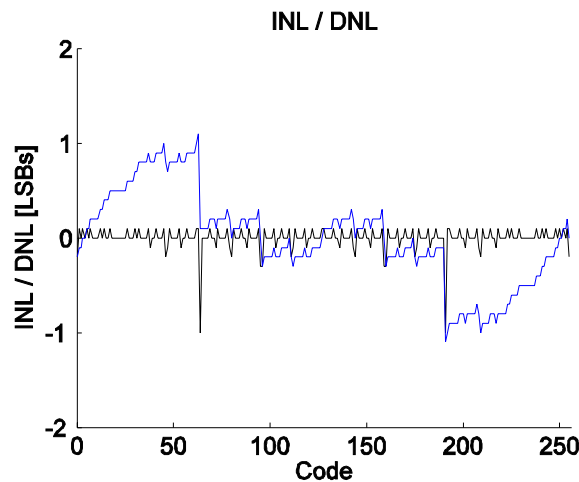

Figure 18. INL and DNL of the pipeline ADC with and without 2% gain error in all stages.
- e. Change the **amplification** of the analog signal in all the pipeline stages to **1.96**. Run a new simulation and evaluate the INL / DNL. The result should qualitatively look like that in Figure 18.